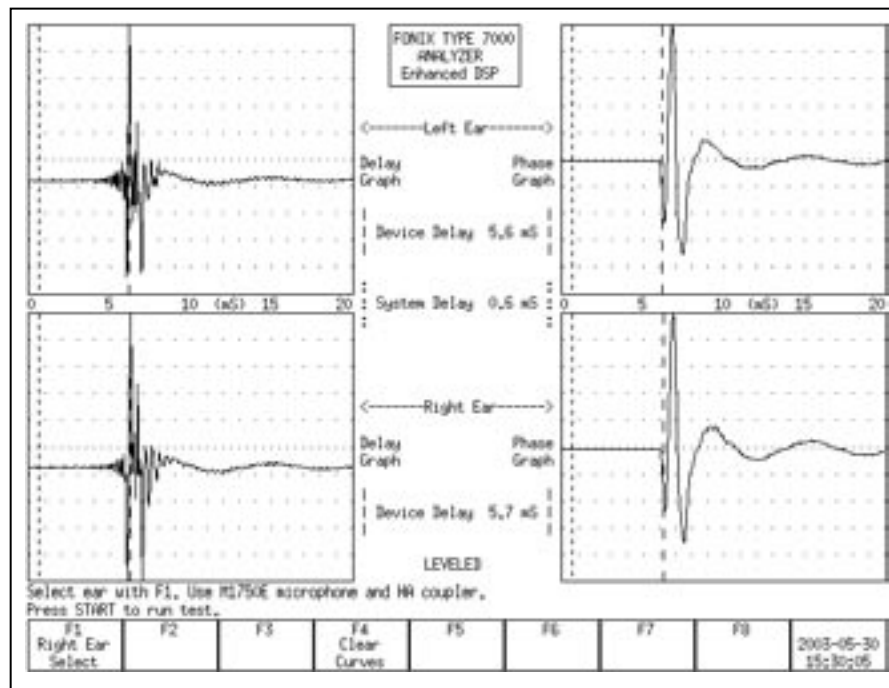

Figure 4.1.3—Enhanced DSP measurement results
5. Set up a second hearing aid in the sound chamber, if desired, and use [F1] to select the other ear. Press [START] to perform the measurements on this second aid. This will allow you to compare the results of the two hearing aids. See Figure 4.1.3.